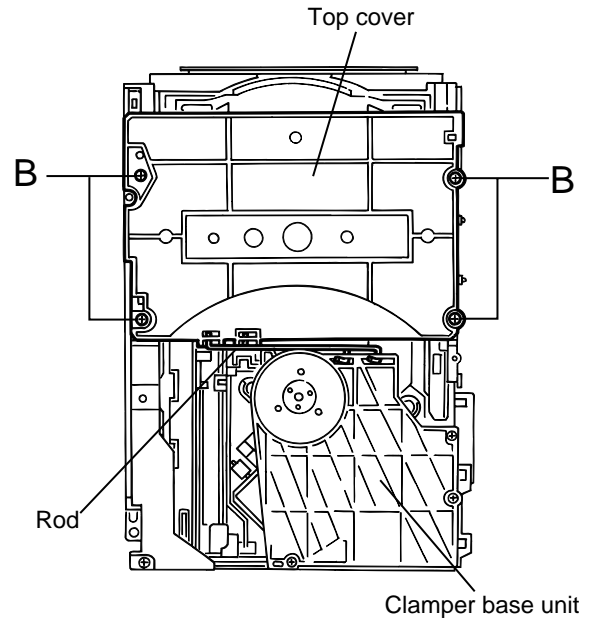

Fig.5
■ Removing the tray unit (See Fig.5 to 8)